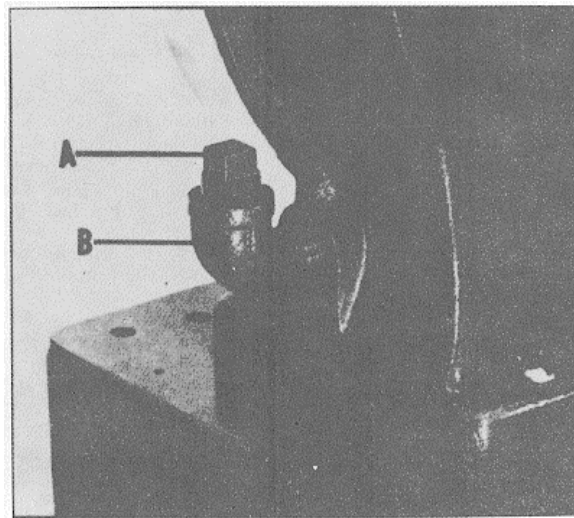

Fig. 24
All models are equipped with a 2-inch street elbow (A) Fig. 24, and a pipe plug (B).
Remove the pipe plug (B) Fig. 24, to check the level of oil in the gear case from time to time and keep it filled to insure proper gear lubrication.